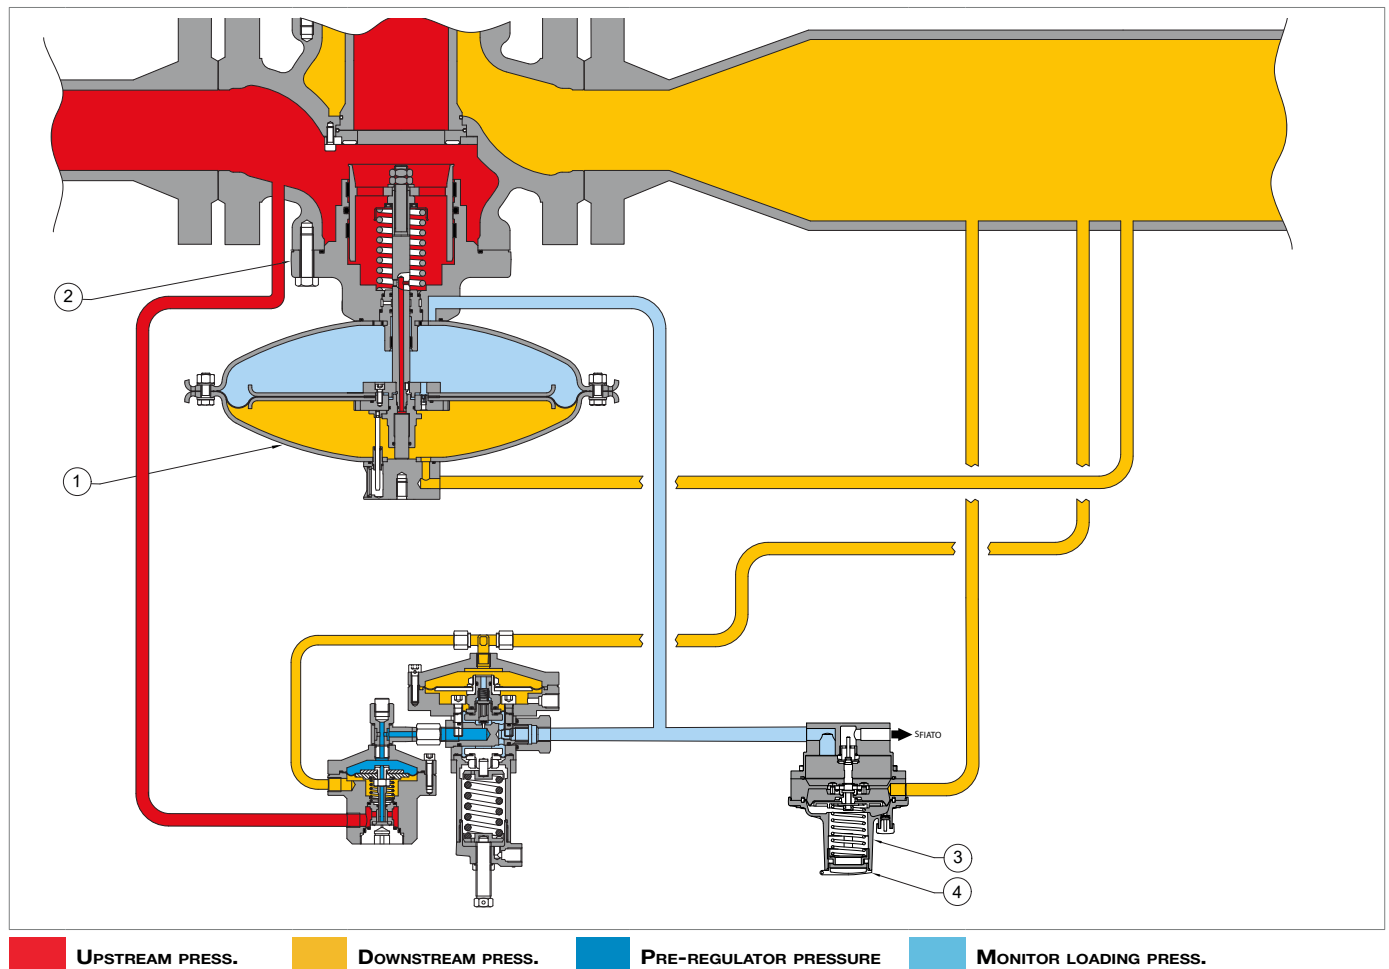

Fig. 4.9. V/25 accelerating valve
- V/25 (3, fig. 4.9), in the case of downstream pressure (Pd) up to 0.6 bar;
- the adjustment ring nut (4, fig. 4.9) for valve V/25